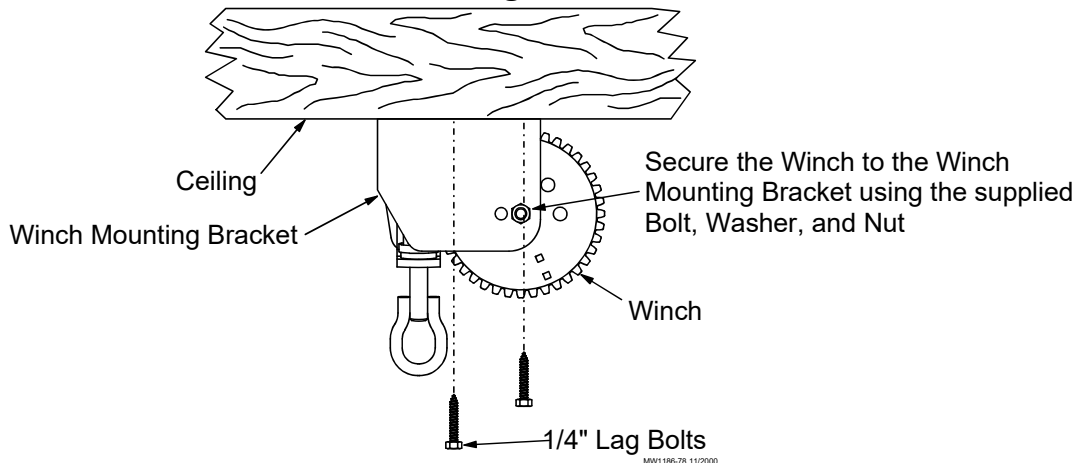

Figure 15. Winch Mounting
4. Mount the split drum winch as shown in **Figure 15**. Mount the winch to the ceiling or on a 2 x 8" [50 x 200 mm] board spanning at least two rafters for support. Use at least (4) 1/4" lag screws (not supplied) to secure winch to support. For systems less than 150' [46 m], the manual winch may be used in place of the split drum winch.
5. Bolt the winch to the bracket, as shown in **Figure 15**.